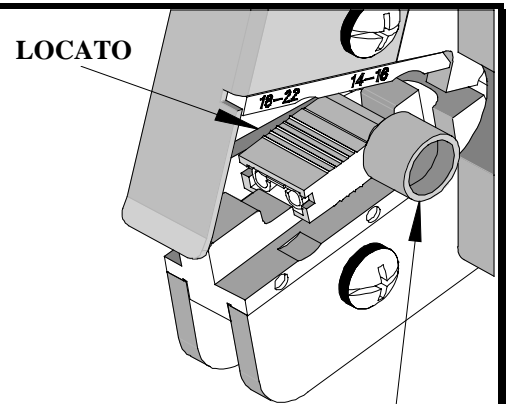

Figure 1 TERMINA
1. Place the flag terminal barrel into the conductor anvil of the lower jaw. Make sure the closed end of the barrel is touching the locator. (See Figure 1).